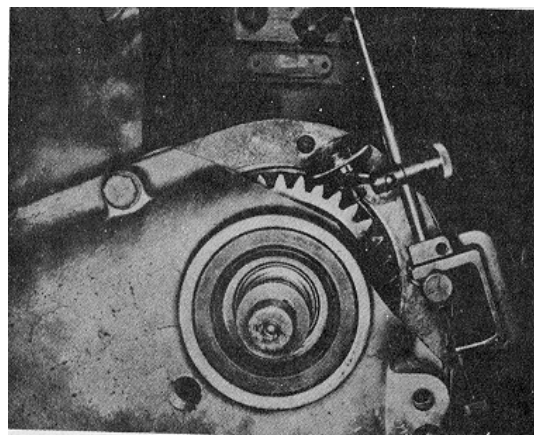

Fig. 14-10, (N114132). Checking accessory drive gear backlash
Bar 'engine to No. 1 cylinder, TDC position (firing stroke), continue rotating to 90 deg. ATC. In this position, the two center-punched marks on drive gear will mesh or index with two dash marks on camshaft gear. This timing is required so external timing marks on accessory drive pulley will be properly aligned with timing mark on gear case to show valve and injector adjustment positions, keyway of drive shaft will be at top. Secure drive to cylinder block. Using a scrap gear case cover, fabricated as illustrated in Fig. 14-10, check accessory drive gear backlash.
1. Attach a dial indicator gauge to the block with plunger on accessory drive gear tooth. Fig. 14-10. Rotate gear as far as it will move to take up backlash, zero indicator.